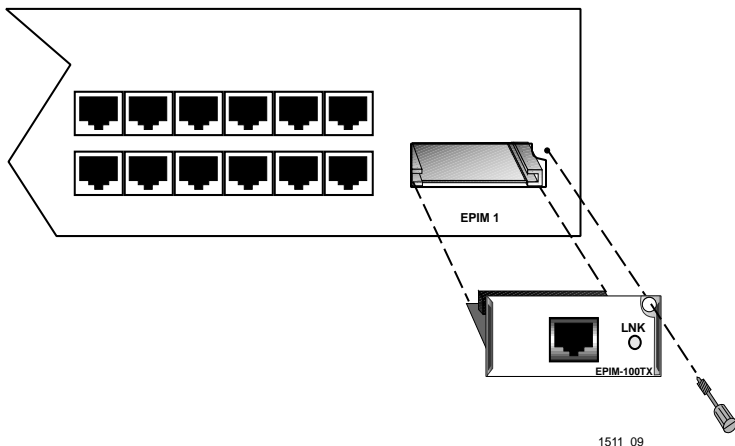

Figure 4-7 Installing an EPIM-100TX/FX
2. Slide the new EPIM into place, making sure that the connectors on the rear of the EPIM align correctly and firmly with the connector inside the SEHI. Refer to Figure 4-7.